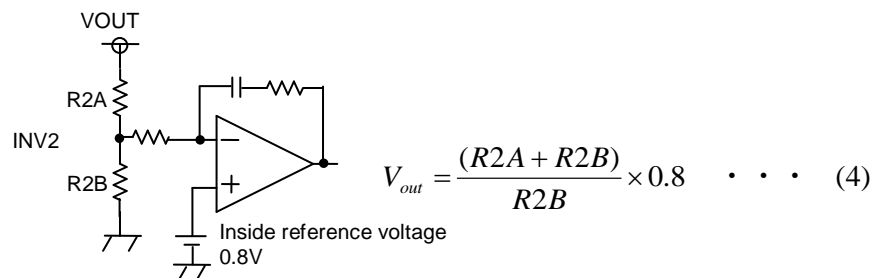

Figure 33 CH2 output setting
The reference voltage of CH1 is 1.0V and the internal reference voltage of the ERROR AMP is 0 V. Output voltage should be obtained by referring to Equation (3) of Fig.33.